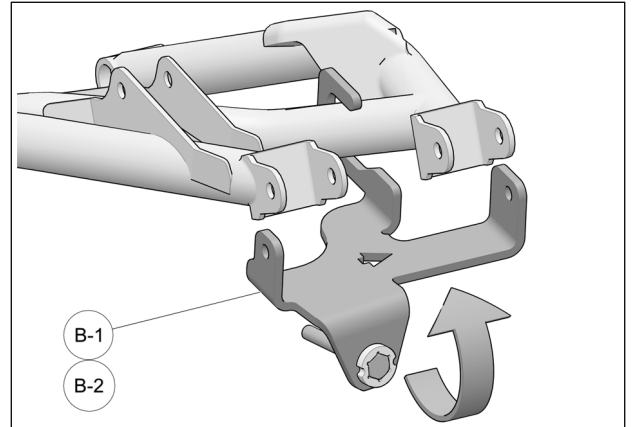

Fig. 7
7. Rotate bracket upward to align its holes with the holes in the suspension arm. See Fig. 7